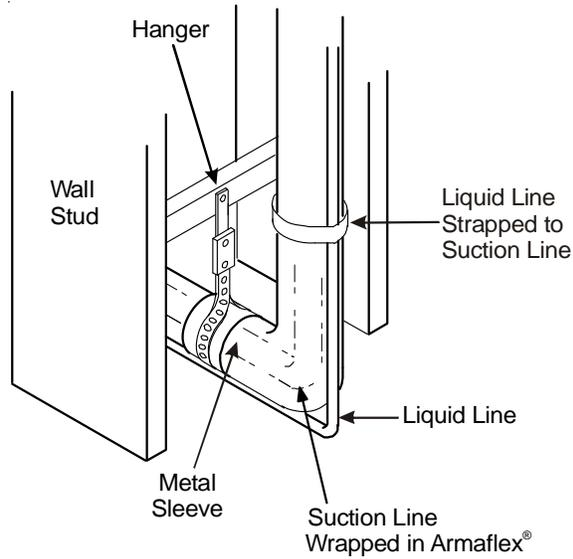

Figure 1-1.
9. **Vibration and Noise:** In long line applications, refrigerant tubing is highly prone to transmit noise and vibration to the adjoining structure. When mounting line set to structural members, use adequate vibration-isolating hardware. For examples of proper mounting, see Figures 1-1, 1-2 and 1-3.